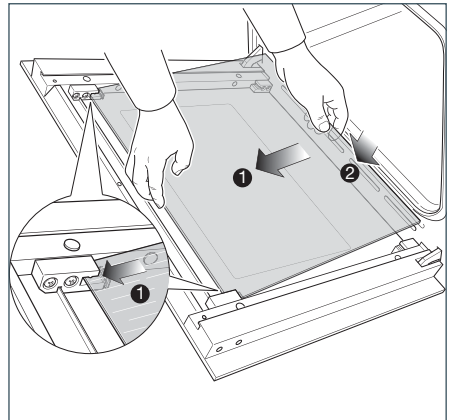
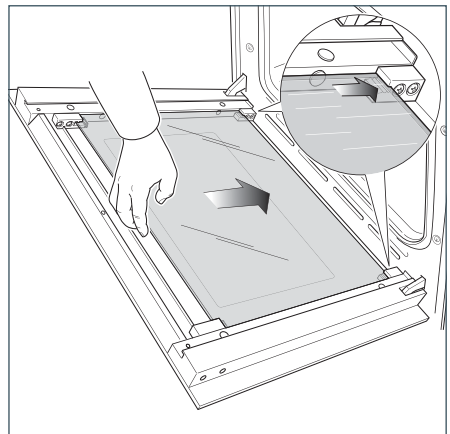

Fig.83b
Fig.83c
- Gently insert the top edge of the pane into the top clamps (arrow 1 in Fig. 83b), then lower the pane and insert the bottom edge into the bottom clamps (arrow 2 in Fig. 83b); and then slide the pane into position (Fig. 83c).